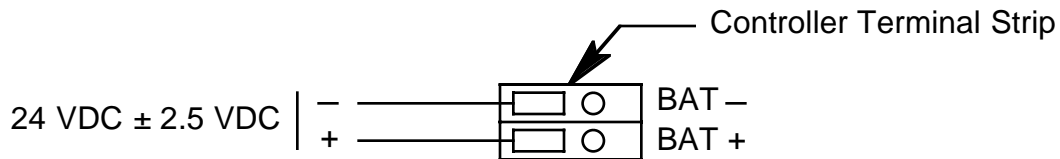

Figure 7. DC Power Wiring
5. Connect the DC wires to the controller terminal strip as shown in Figure 7.